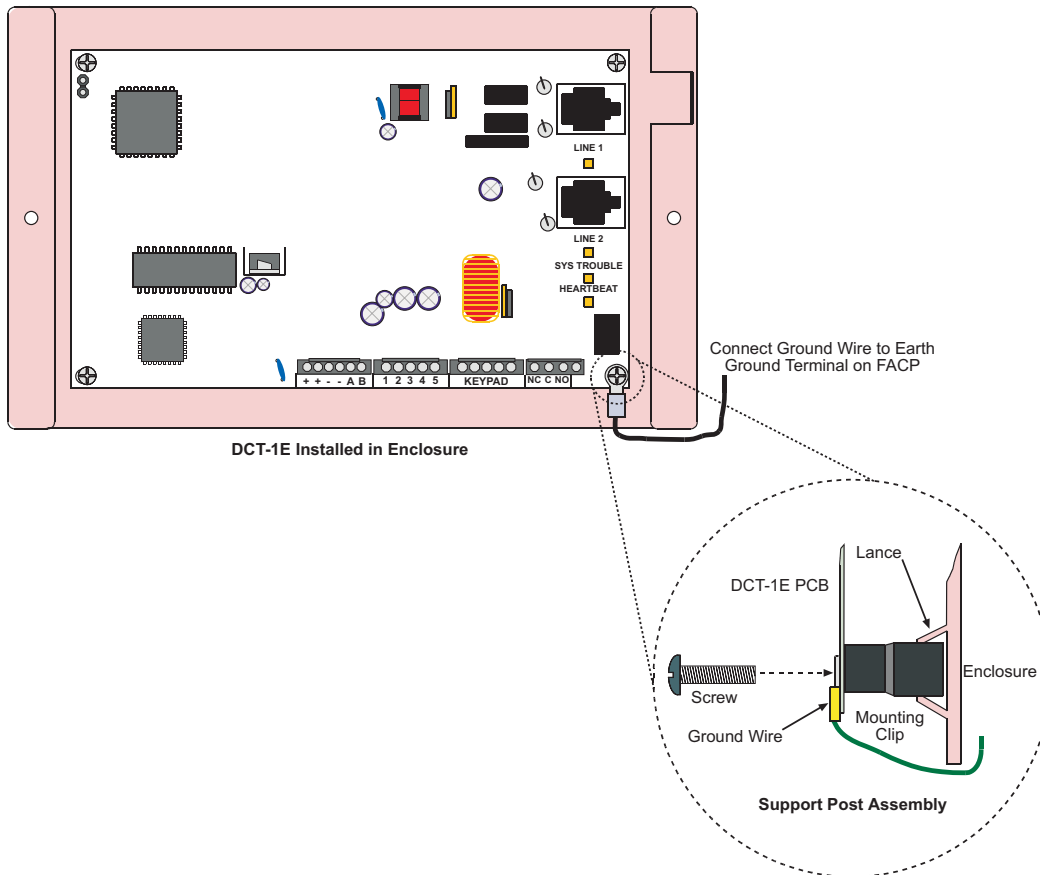

Figure 4: Mounting the DCT-1E Board
Note: Refer to Figure 4 for ground wire connections.
- 3) Mount the DCT-1E Board to its case using the supplied mounting screws and mounting clips, and attach the ground wire. See Figure 4.